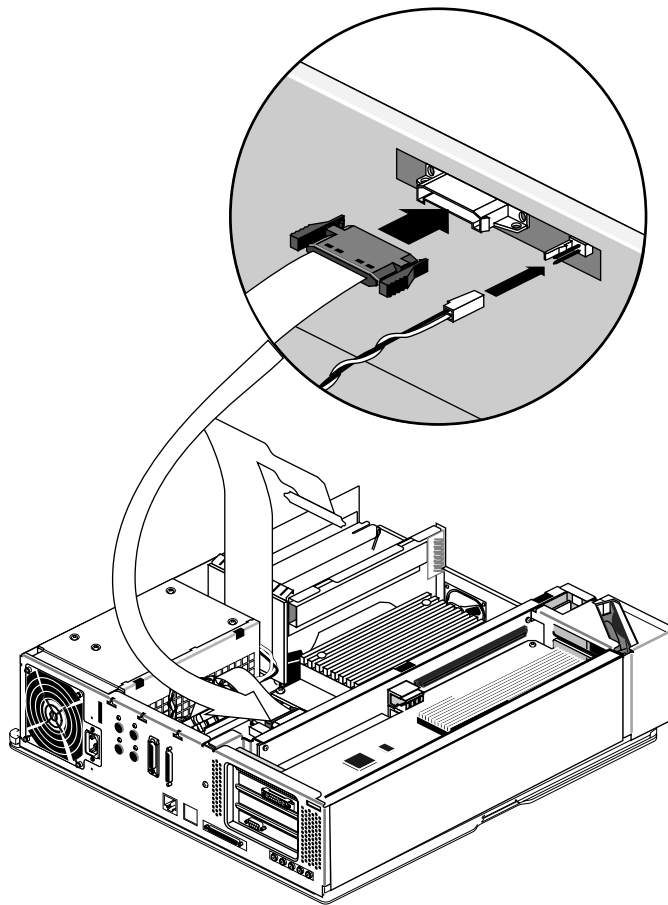

Figure 9-28 Connecting the Midplane Power Cables
- Pinch together the corrugated edges on the ribbon cable connector, and connect it to the midplane. See Figure 9-28.